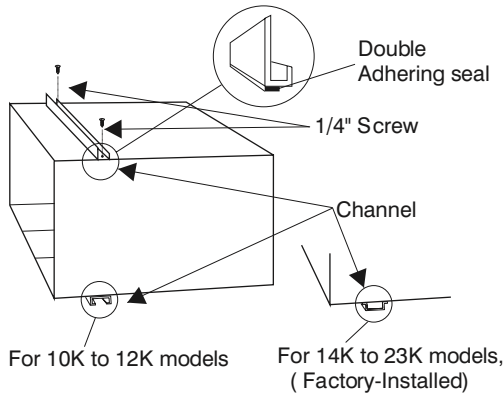

Fig. 8 – Channel Assembly
- "L" Shaped Top Channel: Stick the double adhering seal to the "L" shaped top channel, and then install the "L" shaped top channel to the cabinet as shown in Fig. 8 using (5) 1/4" screws.
- "n" Shaped Bottom Channel installed as shown in Fig. 8 using (4) 1/4" screws.